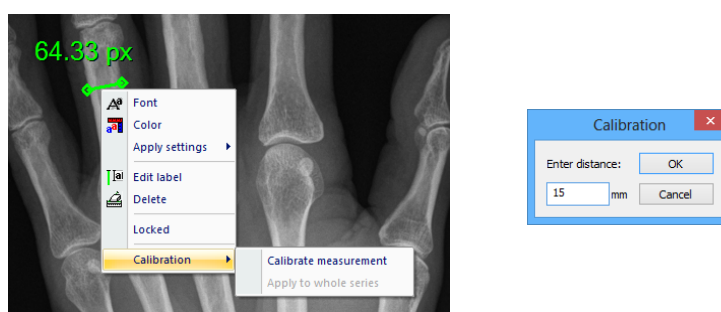

Figure 226 – Calibration context menu and the Calibration dialog
To activate calibration, select the **Calibration** item (see Figure 226) in the **Annotations** context menu, which is displayed by pressing the mouse context button on the Distance measurement.
- **Calibrate measurement** - to open the **Calibration** dialog in order to define the calibration (see Figure 226).